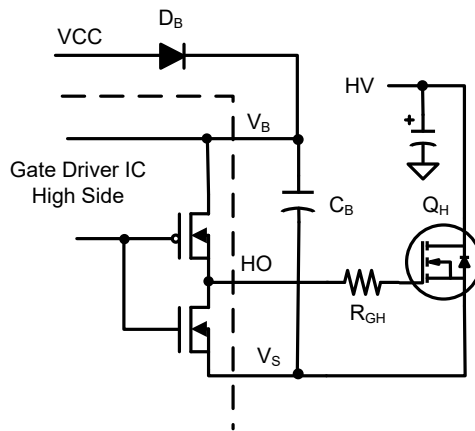

Figure 29. TF2108(A) high side in bootstrap operation
The supply for the TF2108(A) High Side is provided by the bootstrap capacitor  $C_B$  (see fig 29). In the half-bridge configuration ,  $V_S$  swings from 0V to  $V_{HV}$  depending on the PWM input of the IC. When  $V_S$  is 0V,  $V_{BS}$  will go below  $V_{CC}$  and  $V_{CC}$  will charge  $C_B$ . When HO goes high,  $V_S$  swings to  $V_{HV}$ , and  $V_{BS}$  remains at  $V_{CC}$  minus a diode drop ( $D_B$ ) due to the voltage on  $C_B$ . This is the supply for the high side gate driver and allows the gate driver to function with the floating well ( $V_S$ ) at the high voltage.